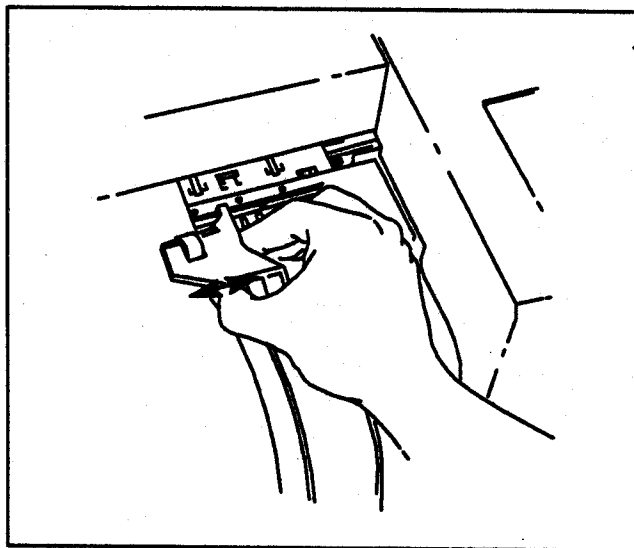

Figure 3-12. Positioning Movable Pinch Wheel
- d. Position the right-hand movable pinch wheel arm so that the guide arrow on the arm is directly above the right-hand edge of the media. See Figure 3-12.